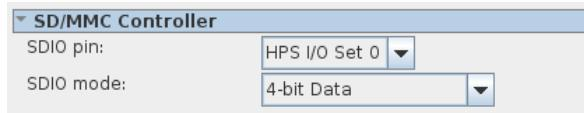

Figure 9-8. SD/MMC configuration
- Configure “SDIO pin” to “HPS I/O Set 0” and “SDIO mode” to “4-bit Data”, as shown in Figure 9-8.